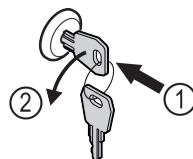

Fig. 166
- Insert the key. Fig. 166 (1)
- Turn the key anticlockwise by 90°. Fig. 166 (2)